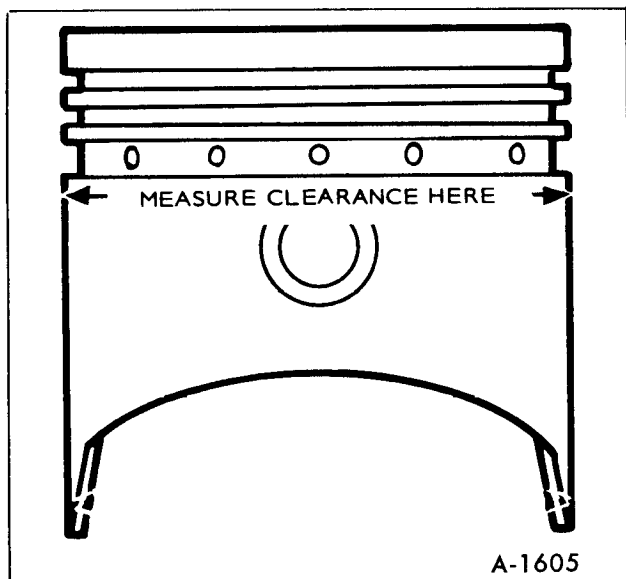

Figure 16—Measuring Diameter of Piston
b. Measure the piston as shown in Figure 16 to be sure the total piston-to-cylinder clearance follows specifications.